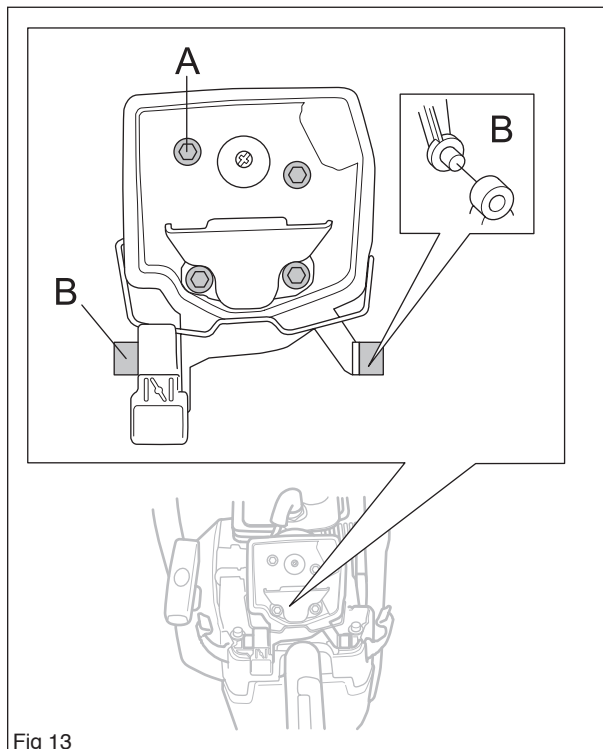

Fig 13
Loosen the screws (A) (see figure 13)
Loosen the filter holder from the rubber mountings (B). (see figure 13)